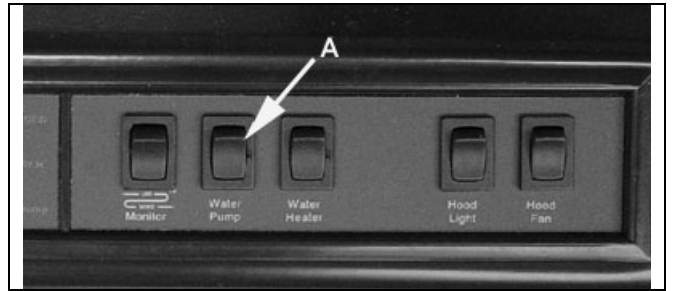

Figure 4-4 – Water Pump Switch
When you use the installed potable water tank, the pressure is supplied by the water pump. The pump is fully automatic and will run when a faucet is opened or the toilet is flushed after initial priming. There is an on/off switch (A) located on the exhaust hood over the cook top. The pump will operate only if this switch is on. A light on the switch indicates the water pump is on. See figure 4-4.